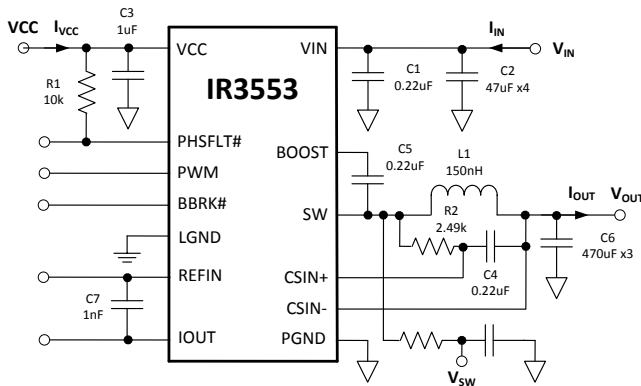

Figure 32: IR3553 Power Loss Measurement
Circuit of Figure 32,  $V_{IN}=12V$ ,  $V_{OUT}=1.2V$ ,  $f_{SW} = 400kHz$ ,  $L=150nH$  (0.29mΩ),  $V_{CC}=7V$ ,  $T_{AMBIENT} = 25^{\circ}C$ , no heat sink, no air flow, 8-layer PCB board of 3.7" (L) x 2.6" (W), no PWM controller loss, no inductor loss, unless specified otherwise.
Circuit of Figure 32,  $V_{IN}=12V$ ,  $V_{OUT}=1.2V$ ,  $f_{SW} = 400kHz$ ,  $L=150nH$  (0.29mΩ),  $VCC=7V$ ,  $T_{AMBIENT} = 25^{\circ}C$ , no heat sink, no air flow, 8-layer PCB board of 3.7" (L) x 2.6" (W), no PWM controller loss, no inductor loss, unless specified otherwise.